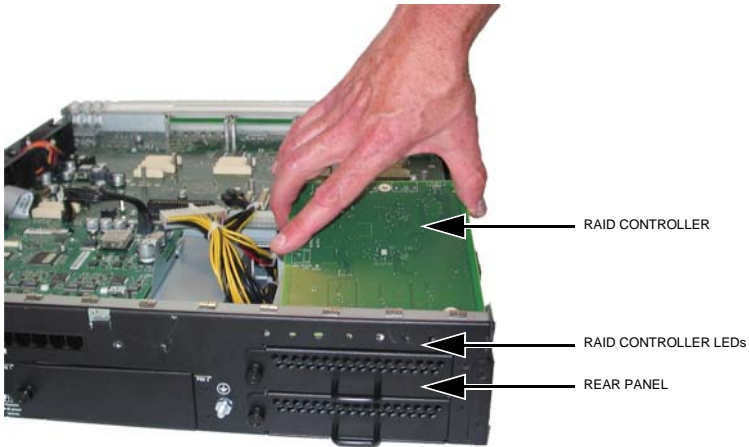

Figure 87: Position the SATA RAID Controller Board
4. Position the new RAID controller board by carefully inserting the LED indicators into the holes in the controller rear panel (see Figure 87).